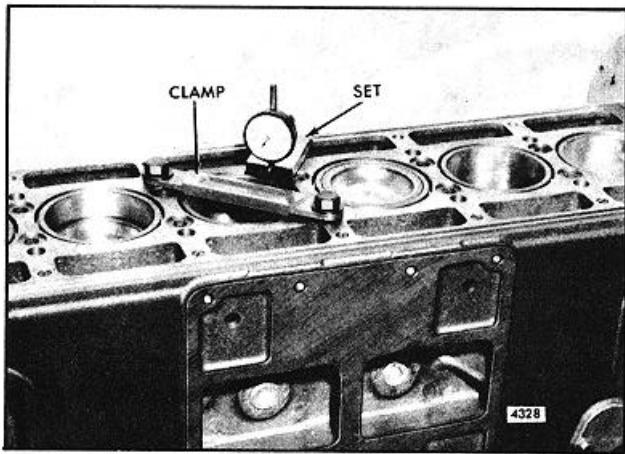

Fig. 11. Checking Distance of Liner Flange Below Top Face of Block
4. Install a cylinder liner hold-down clamp as illustrated in Fig. 11.
5. Measure the distance from the top of the liner to the top of the block with a dial indicator (Fig. 11). The liner flange must be .045 " to .050 " below the surface of the block. However, even though all of the liners are within these specifications, there must not be over .002" difference in depth between any two adjacent liners when measured along the cylinder longitudinal center line.